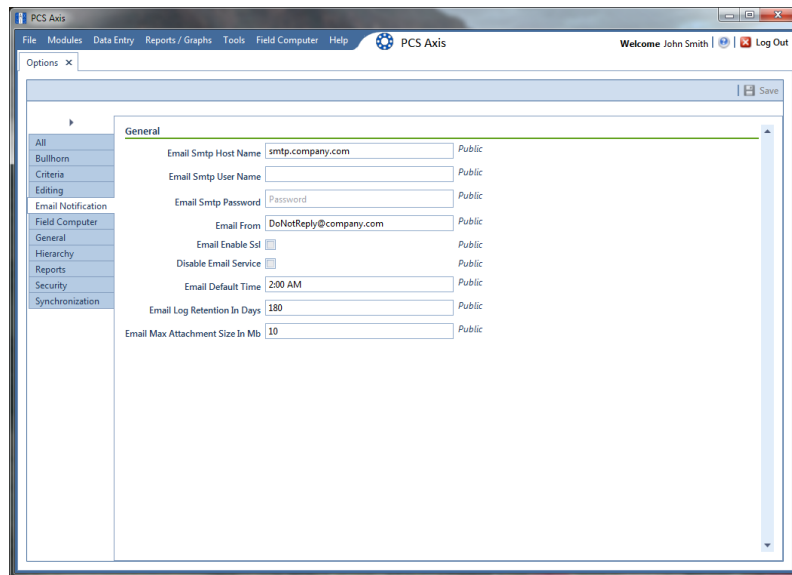

Figure 3-9. Email Notification Options
- 1 If the *Options* window is not open, click **Tools** > **Options** to open the window. Then click the **Email Notification** tab (Figure 3-9).